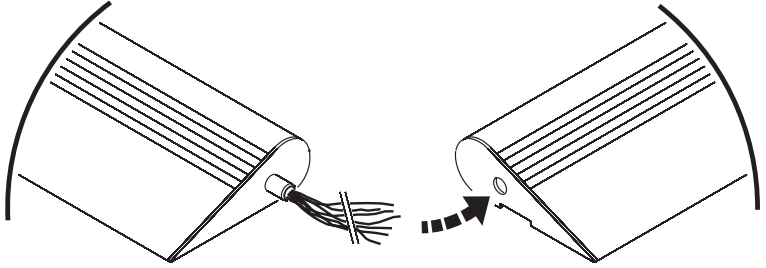

Figure 3: Luminaire-to-luminaire connection
5. See Figure 3. Holding the second luminaire approximately in position, push the wires from the first luminaire through the entry hole in the end of the second luminaire and into the second luminaire's housing.